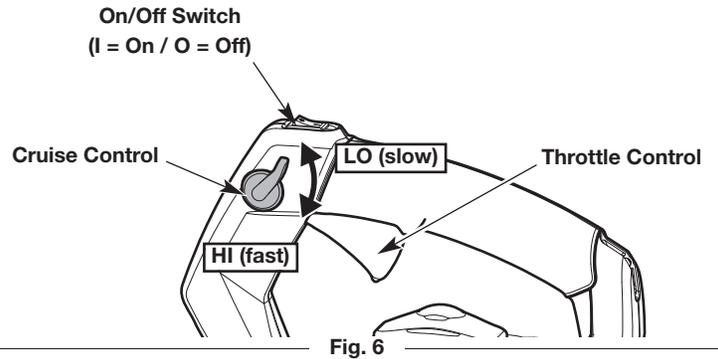

Fig. 6
NOTE: There is no need to turn the unit on. The On/Off switch is in the **On (I)** position at all times (Fig. 6).
2. Move the cruise control to the **LO (slow)** position (Fig. 6).
NOTE: Keep the cruise control in the **LO (slow)** position and **DO NOT** squeeze the throttle control (Fig. 6) until step 7.
NOTE: If the unit stops during this time, squeeze and hold the throttle control or move the cruise control to the **HI (fast)** position (Fig. 6), then pull the starter rope in a controlled and steady motion until the unit starts.
7. Squeeze and hold the throttle control or move the cruise control to the **HI (fast)** position (Fig. 6). Allow the engine to warm up for 30 to 60 seconds. The unit may be used during this time.
2. Press and hold the On/Off switch in the **Off (O)** position until the engine comes to a complete stop (Fig. 6).
NOTE: Keep the cruise control in the LO (slow) position and DO NOT squeeze the throttle control (Fig. 6) until step 9.
NOTE: If the unit stops during this time, squeeze and hold the throttle control or move the cruise control to the **HI (fast)** position (Fig. 6), then run the electric start accessory in intervals no longer than 2 seconds each until the unit starts.
9. Squeeze and hold the throttle control or move the cruise control to the **HI (fast)** position (Fig. 6). Allow the engine to warm up for 30 to 60 seconds. The unit may be used during this time.
- Use the cruise control to make continuous operation easier (Fig. 6).